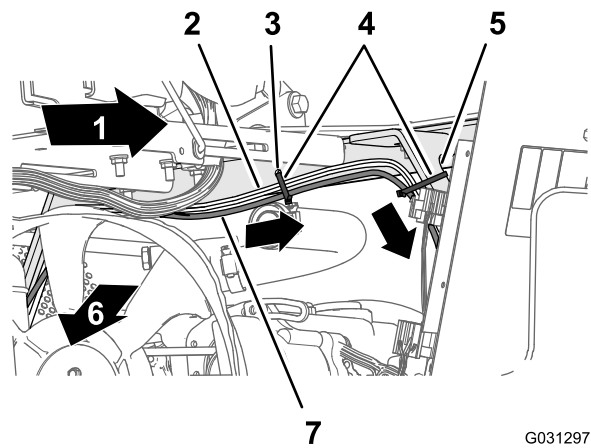
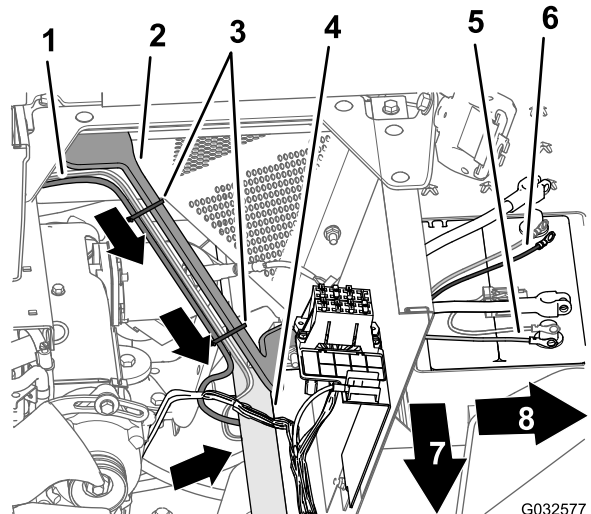

Figure 163
Figure 164
3. Route the 220 cm (86-5/8 inches) branch of the electrical harness for the navigation system down along the left support for the engine shroud and under the left frame tube (Figure 163).
4. Secure the harness to the hole in the seat-box angle and the engine-shroud support with 3 cable ties (Figure 163 and Figure 164).
electrical harness for the navigation system to the top of the battery (Figure 164).